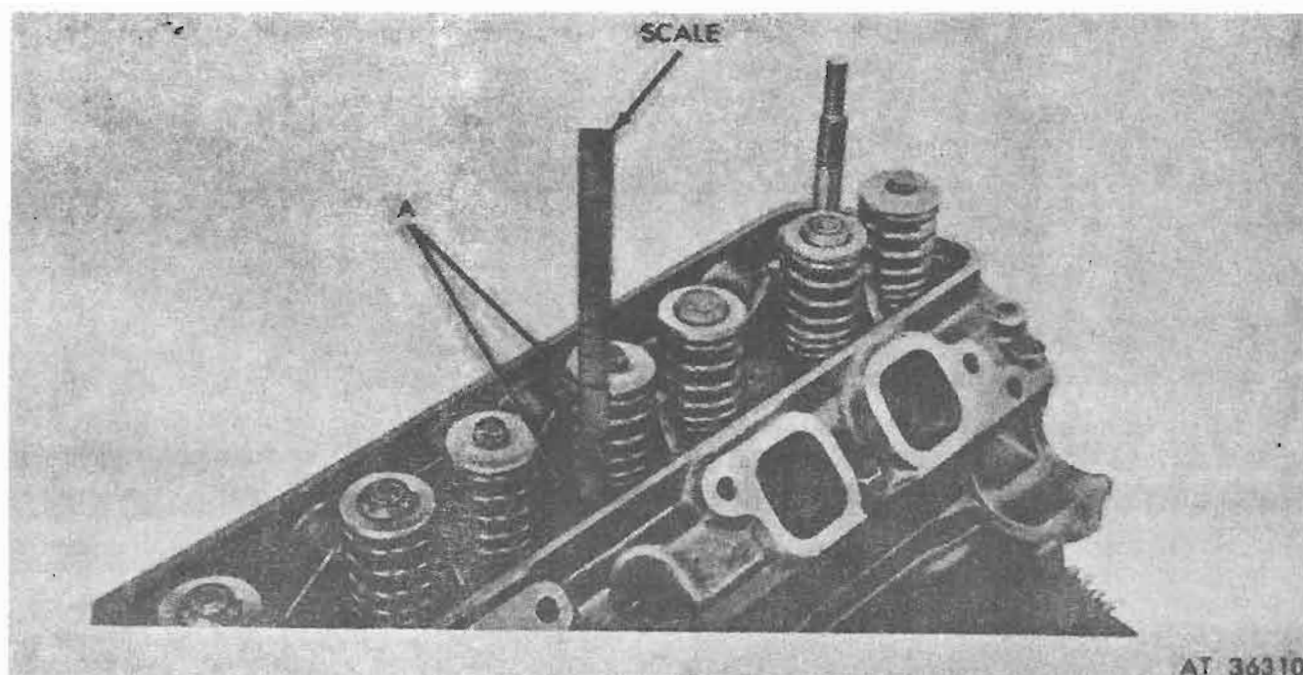

Figure 4-143. Valve spring assembled height.
g. Check Valve Spring Assembled Height. Measure the assembled height of the valve spring from the surface of the cylinder head spring pad to the underside of the spring retainer with a scale or suitable instrument (fig. 4-143). If the assembled height is greater than $1 \frac{13}{16}$ inches, install the necessary 0.030-inch-thick spacer(s) between the cylinder head spring pad and valve spring to bring the assembled height to the recommended dimension of $1 \frac{13}{16} \pm .03$ inches. Do not install .00 spacers unless necessary. Use of spacers in excess of recommendations will result in overstressing the valve spring and cause excessive load loss and spring breakage.